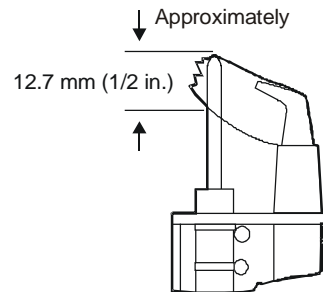

Figure 1: Flame Position
- A flame approximately 12.7 mm (1/2 in.) high must surround the thermocouple tip. See Figure 1.